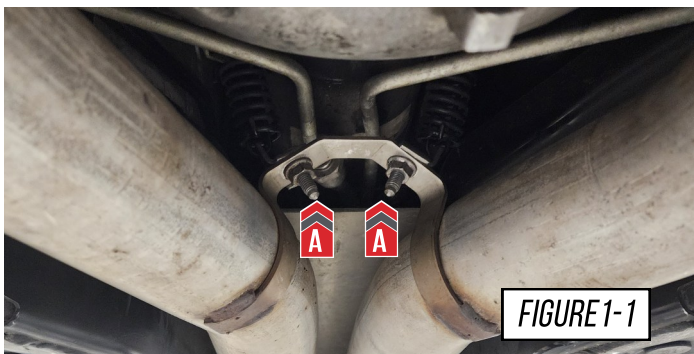

FIGURE1-1
Remove the hardware shown at (A) that holds the spring hangers to the bracket, shown in **Figure 1-1**.